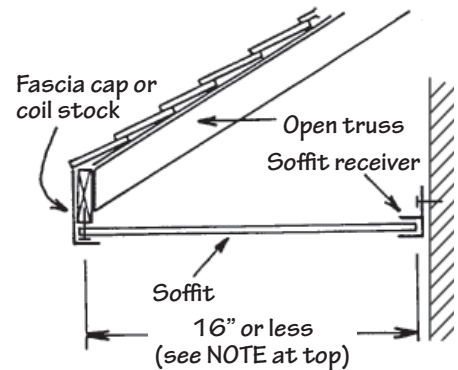

Figure 63.
- Examine the illustrations on the right side of page 33 and find one that most closely resembles the construction methods used on this particular project (Fig. 63 through 66).